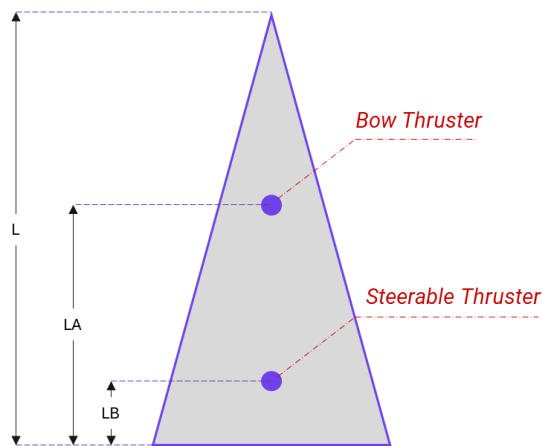
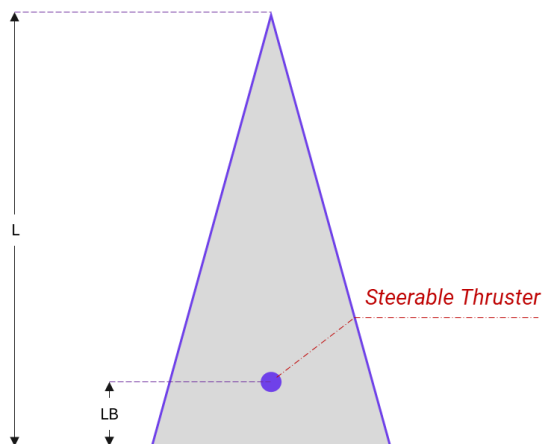
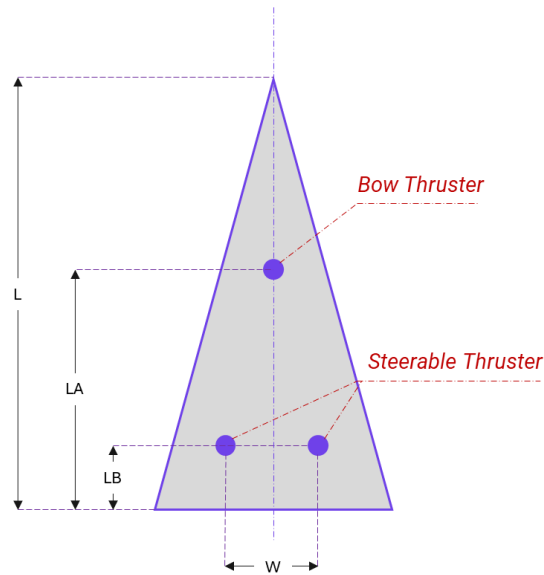

Figure 10: Configuration "0" Geometric Parameters
Figure 11: Configuration "1" Geometric Parameters
Figure 12: Configuration “2” Geometric Parameters
- 1- Enter the configuration of the vessel parameters and values. All geometric parameters are as explained in Figure 10, Figure 11 and Figure 12.